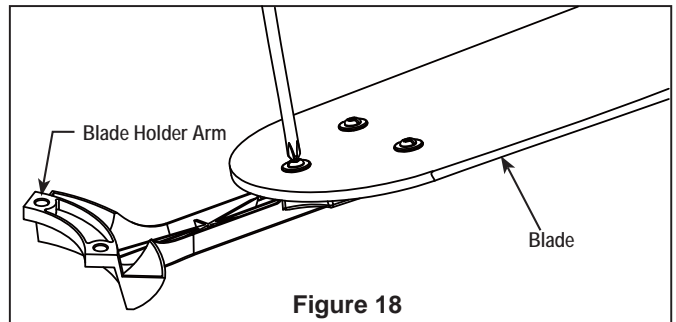

Figure 18
1. Position the blade over the blade holder with threaded posts showing. Make sure the bottom edge of the blade is fully seated against the blade arm. With a phillips screwdriver, tighten 3/16"-24 washer head screws and fiber washers to secure the blade to the blade arm. (Figure 18)